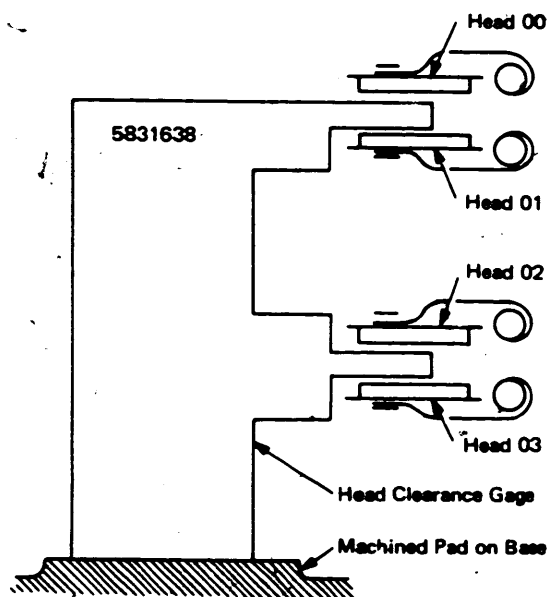

Figure 2-35. R/W Head Clearance Check. [07558A]
5. Place head clearance gage, part 5831638, on machined pad at the disk side of the cable clamp pillar (Figure 2-35). Jaws of tool should be behind the heads.